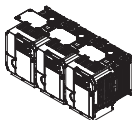

Figure 2.4 IP20/NEMA 1 Side-by-Side Mounting in Enclosure
**NOTICE:** When drives with IP20/NEMA Type 1 enclosures are mounted side by side, the top covers of all drives must be removed as shown in Figure 2.4.